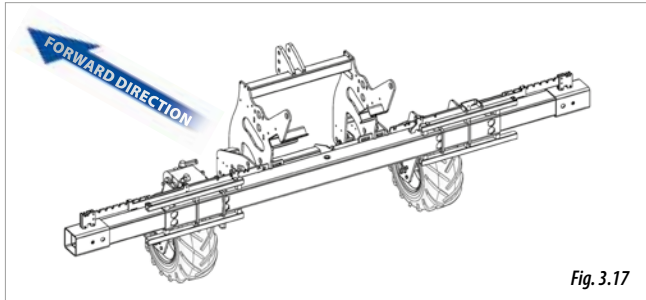

Fig. 3.17
- Simple telescopic (Fig. 3.17)